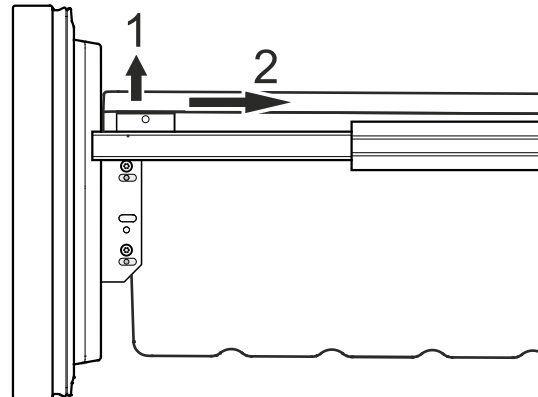

Figure 17
- Unlatch the container on the left and right corners by pulling upwards (1) - **Figure 17**.
- Slide the container backwards (2) - **Figure 17**.